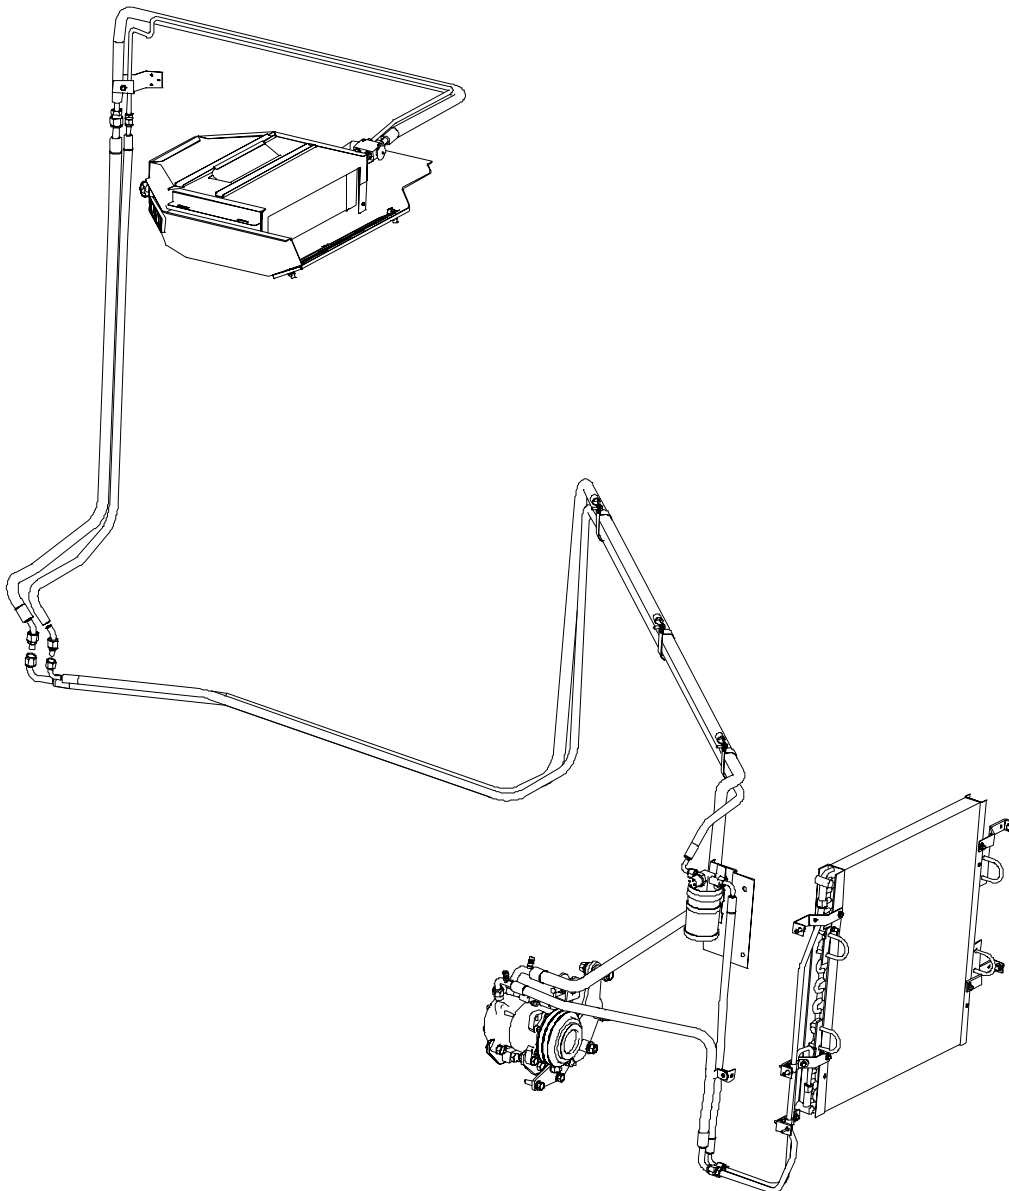

Figure 30 System Piping
68. Correct installation of hose and pipe fittings is critical if leaks and joint problems are to be avoided. A diagram, showing the system piping, is shown at Figure 30. The following information is designed to be of assistance when fitting air conditioning systems: